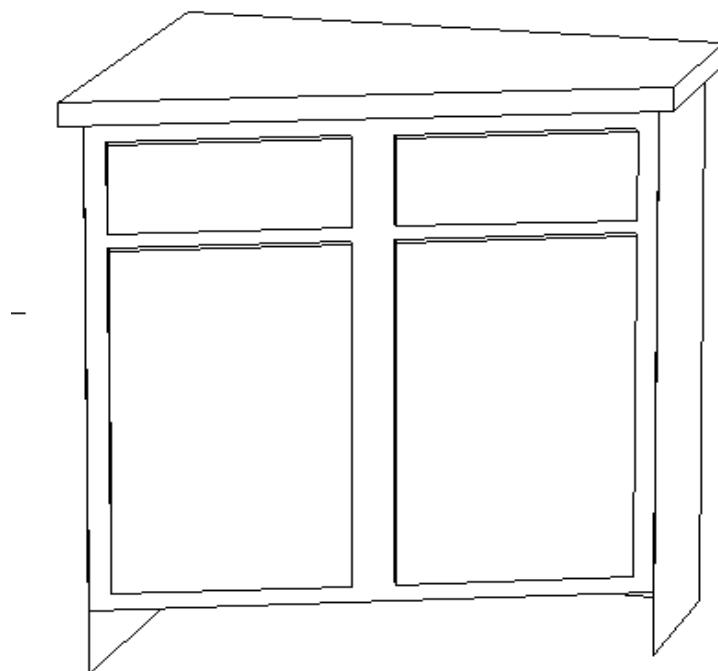

Figure 9
4. Using the **BLOCK LAYER** command under the **LAYER** menu (L), block layer 0 and return to the drawing.
5. Set a point on one of the corners and create a **BLOCK HANDLE** (BH).
8. Use the **EXTRUDE BLOCK** command under the **BLOCKS** menu to extrude the top to its finished height, figure 9.
9. Using the *BLOCK LAYER* command under the *LAYER (L)* menu block layer **0**, then use the *MOVE LAYER* command to move layer 0 to the countertop layer (layer **9**) and return to the drawing.